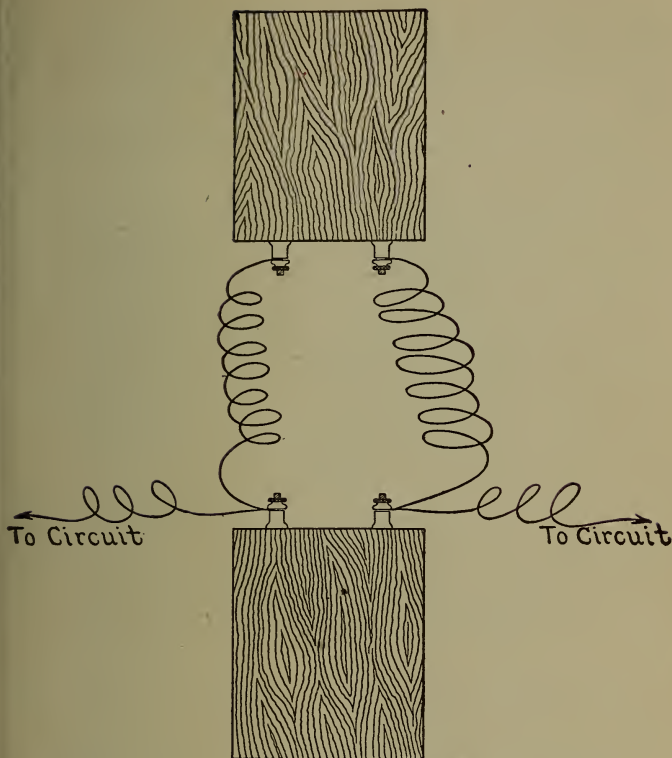

Fig. 14. Two Condensers wired so as to be in Parallel.
*Answer.* As in Fig. 14, connect a wire from one binding post of the first condenser to either binding post of the other condenser. Connect the other two posts by a wire. Connect the wires of the circuit, one to each of the wires joining the condensers.